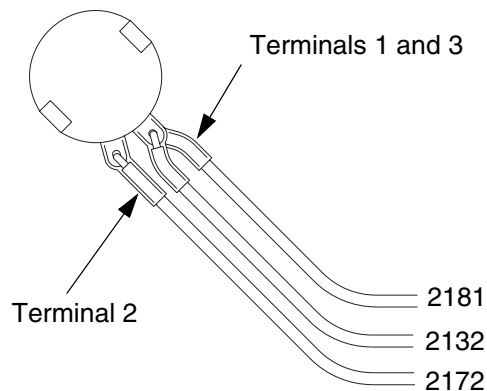

FIG. 16
1. Insert the potentiometer through its hole from the back of the enclosure cover and rotate it so that terminals 1 and 3 are oriented at approximately 4:30 when viewed from the back. Refer to FIG. 16. Assemble the lockwasher and nut onto the shaft and secure the potentiometer to the cover.